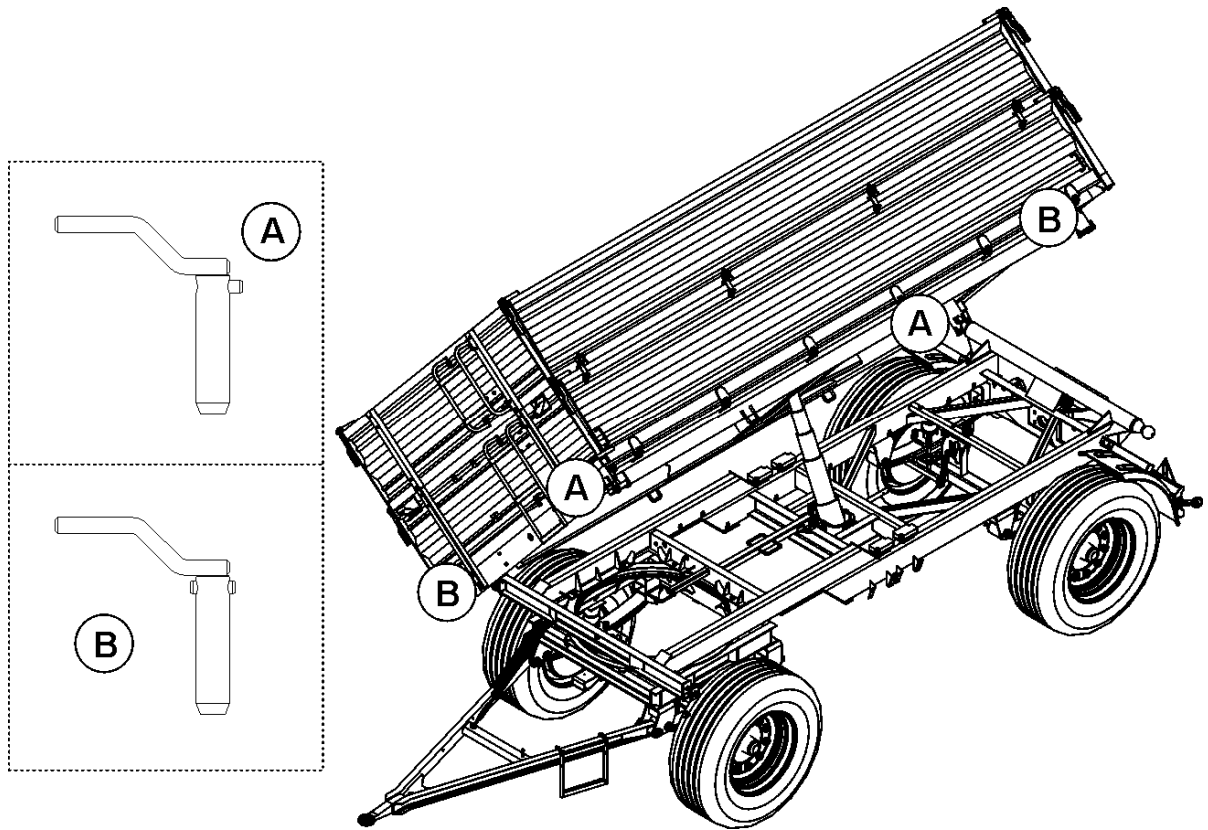

Fig. 11 Tilt bolts
Adjustment of brakes consists in adjustment of position of the brake cam arm (1) (Fig. 11) in relation to the cam shaft (2). For this purpose loose the nut (4) and change position of the arm on the multi-groove end of the shaft (2) towards proper direction i.e.: